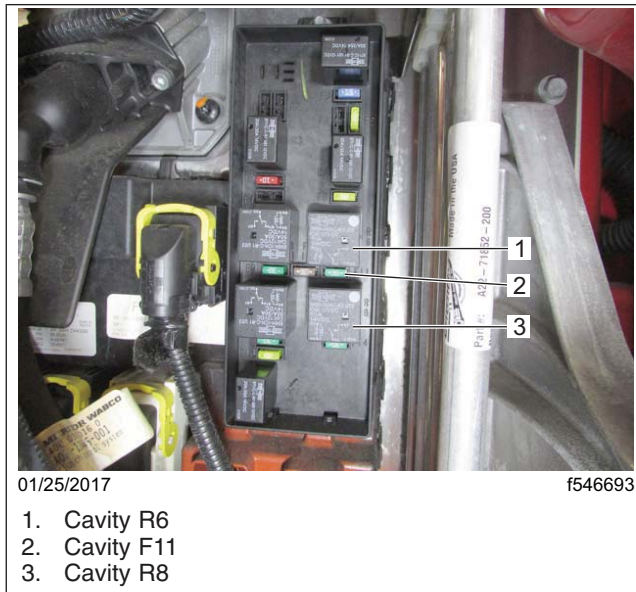

Fig. 33, Relays and Fuses on the SAM Chassis (FL721-B installation shown)
46. Install relay 23-11276-020 (vendor p/n 896-1AH-C-R1-U03-12VDC) into cavity R8, and a 30-amp fuse into cavity F11 on the SAM Chassis. See **Fig. 33**.